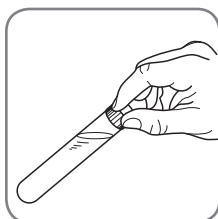

Figure 1
4. Replace caps on sample vials and make sure they are tightly screwed on. Holding only the cap of the vial, **see Fig 1**, invert vials several times to mix. Be sure to hold only the cap of the vial, as vial may become very hot when contents are mixed.